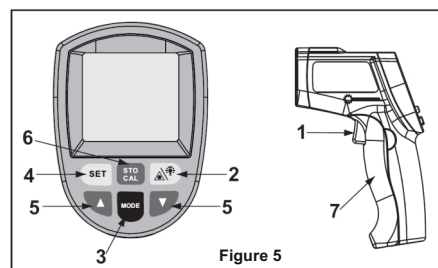

Figure 5
2. Diagram description : (figure 5)